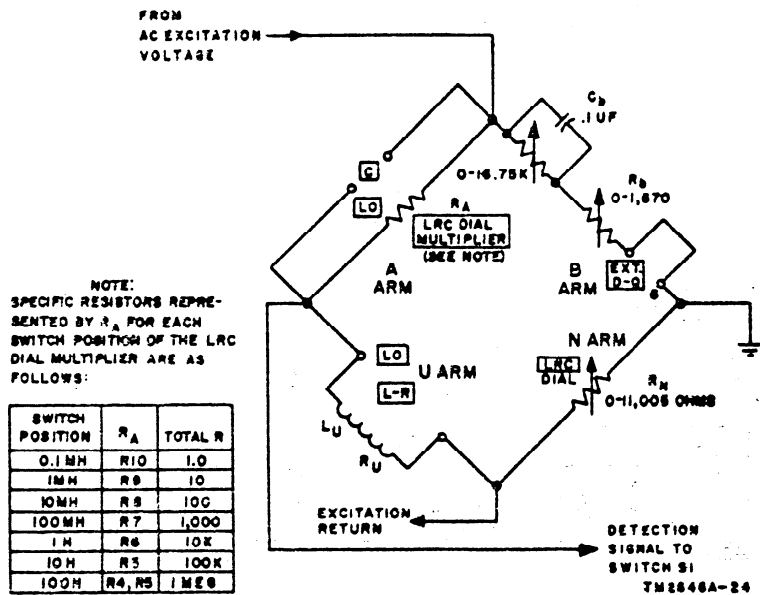

Figure 22. Maxwell inductance bridge circuit, simplified schematic diagram.
d. *Maxwell Inductance Bridge Circuit* (fig. 22). For measurement of inductors having a storage factor ( $Q$ ) less than 10.5, the circuit selector switch is set at L and  $D-Q \times 1$  position and the rest of the controls are adjusted as explained in paragraph 26. The basic Maxwell bridge resulting compares the unknown inductance ( $L_u$ ) with standard capacitor  $C_2$  ( $C_b$ ). When a null exists in the detection circuits, the basic equation for the Maxwell bridge is: